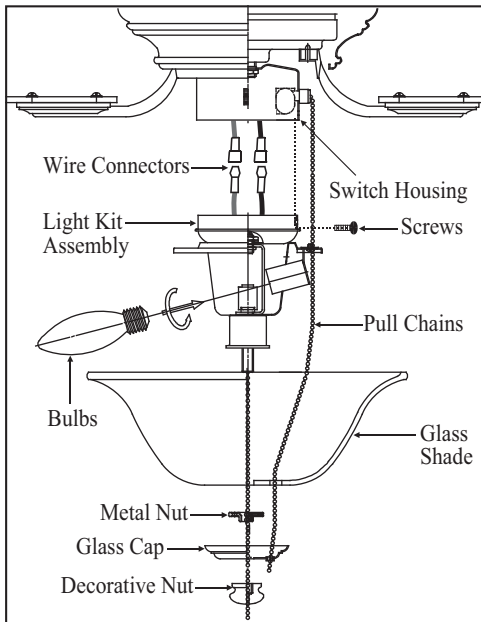

Figure 12
2. Carefully push all wires back into the switch housing. Attach the light kit fitter by aligning its keyhole slots with the three screws holes and reversing switch on the side of switch housing. Tighten the three screws securely to prevent the light kit from vibrating loose.(Fig. 12)
5. Insert the 2 pull chain through the eyelet in the shade and cap. Secure the glass cap and decorative nut provided. Do not overtighten. (Fig. 12)